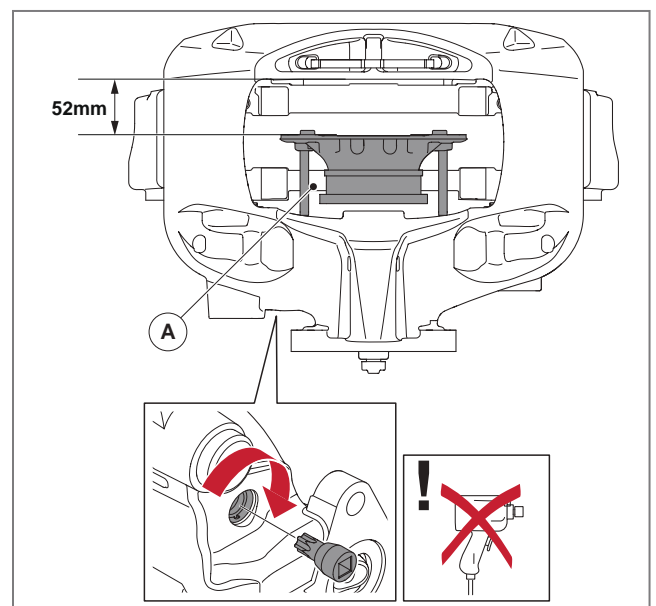

Fig. 49 - Releasing the thrust plate
2. Use the Torx 55 socket to manually rotate the reset shaft clockwise in order to release the thrust plate (A). Continue extracting until the thrust plate unscrews fully and becomes detached from the adjustment screw, see ► Fig. 49. The point at which the thrust plate becomes detached is when the gap between the thrust plate inner pad face and the brake calliper outer pad face becomes smaller than 52 mm. Be careful when removing the thrust plate not to damage its internal thread or the external thread of the adjustment screw.